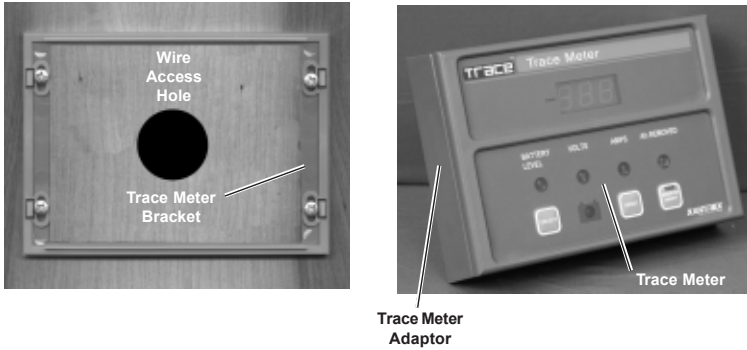

Figure 2-2
- Mount the bracket using the screws (and anchors if necessary) supplied. See Figure 2-2. Do not overtighten the screws.